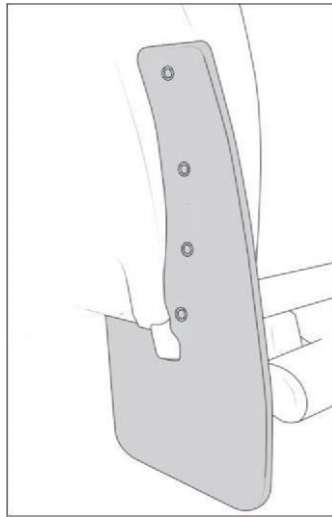

Figure 6
3. All four (4) hole locations should be installed with self-tapping screw included
4. Loosely install a #10 x 1.5" bolt with #10 washer to each location (Fig. 6). It is recommended to begin at top location and loosely install all fasteners and obtain best guard to body fit before tightening all fasteners **HAND TIGHTEN ONLY. DO NOT USE POWER TOOLS.**